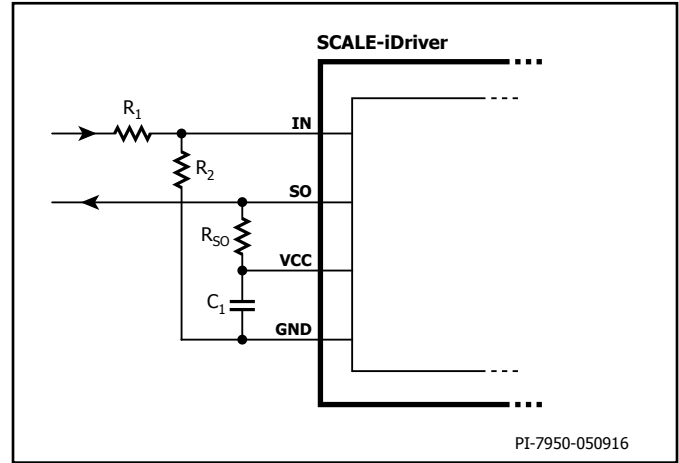
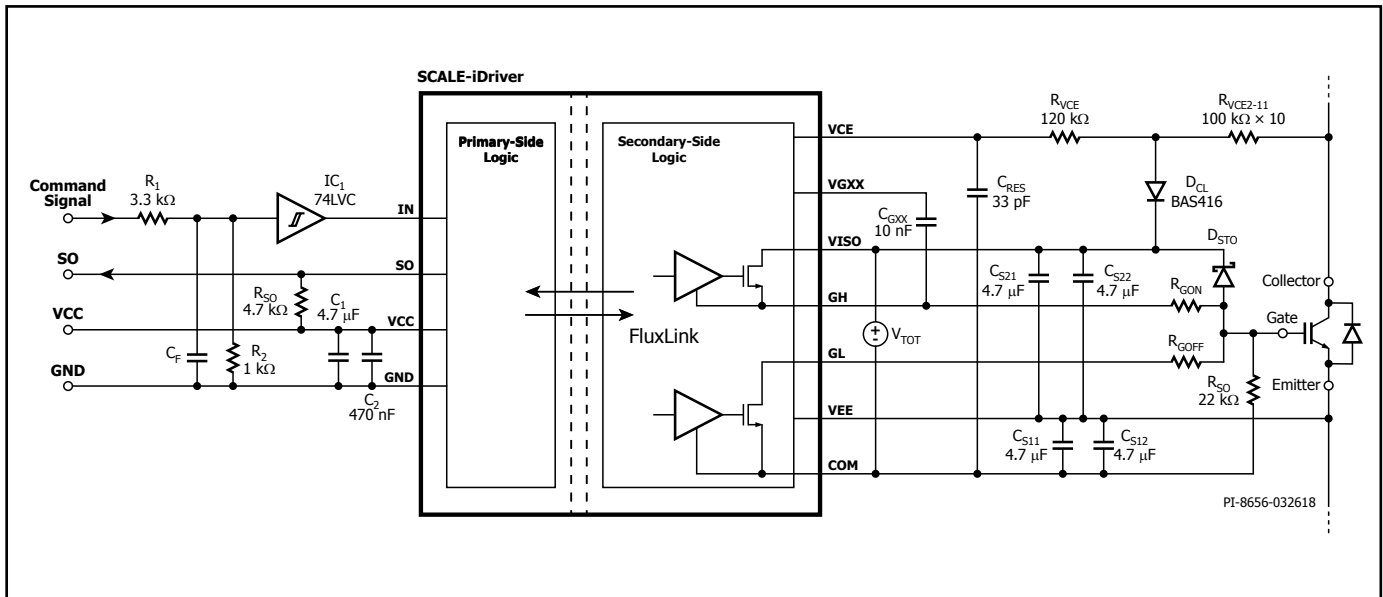

Figure 5. Increased Threshold Voltages V_{IN+LT} and V_{IN+HT} For $R_1 = 3.3 \text{ k}\Omega$ and $R_2 = 1 \text{ k}\Omega$ the IN Logic Level is 15 V.
Figure 13. SCALE-iDriver Application Example Using a Resistor Network for Desaturation Detection.
The input (IN) and output (SO) logic is designed to work directly with micro-controllers using 5 V CMOS logic. If the physical distance between the controller and the SCALE-iDriver is large or if a different logic level is required the resistive divider in Figure 5, or Schmitt-trigger ICs (Figures 13 and 14) can be used. Both solutions adjust the logic level as necessary and will also improve the driver's noise immunity.
and power-down. Any supply voltage related to VCC, VISO, VEE and VGXX pins should be stabilized using ceramic capacitors $C_{1, C_{S1X}}, C_{S2X}, C_{GXX}$ respectively as shown in Figures 13 and 14. After supply voltages reach their nominal values, the driver will begin to function after a time delay t_{START} .
Figures 13 and 14 show the schematic and typical components used for a SCALE-iDriver design. In both cases the primary-side supply voltage (V_{VCC}) is connected between VCC and GND pins and supported through a supply bypass ceramic capacitor C_1 (4.7 μ F typically). If the command signal voltage level is higher than the rated IN pin voltage (in this case 15 V) a resistive voltage divider should be used. Additional capacitor C_F and Schmitt trigger IC_1 can be used to provide input signal filtering. The SO output has 5 V logic and the R_{SO} is selected so that it does not exceed absolute maximum rated I_{SO} current.
Figure 13 shows how switch desaturation can be measured using resistors $R_{VCE2} - R_{VCE11}$. In this example all the resistors have a value of 100 kΩ using 1206 package. The total resistance is 1 MΩ. The resistors should be chosen to limit current to between 0.6 mA to 0.8 mA at maximum DC-link voltage. The sum of $R_{VCE2} - R_{VCE11}$ should be approximately 1 MΩ for 1200 V semiconductors and 500 kΩ for 600 V semiconductors. In each case the resistor string must provide sufficient creepage and clearance distances between collector of the semiconductor and SCALE-iDriver. The low leakage diode D_{CL} keeps the short-circuit duration constant over a wide DC-link voltage range.
Table 2. PCB Layout and Component Guidelines Referring to Figure 13.
Table 2 (cont). PCB Layout and Component Guidelines Referring to Figure 13.